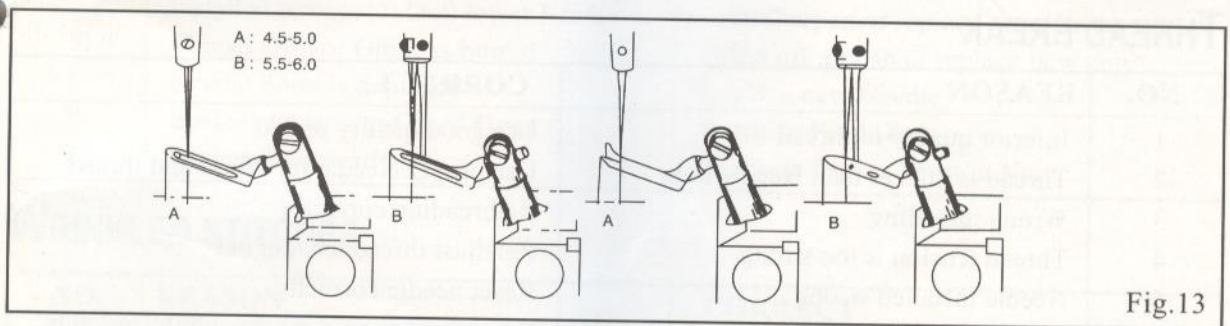

Fig.13
### (2) Upper Looper (Spreader) and Needle Fig.13